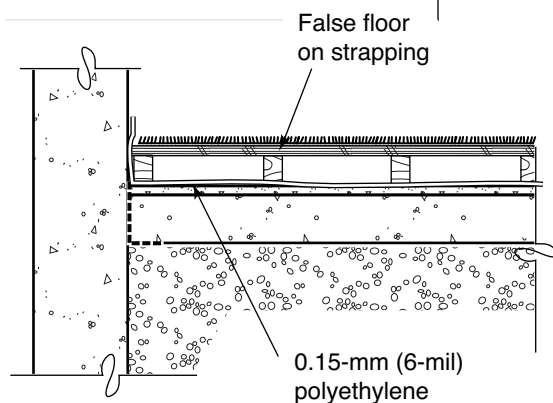

FIGURE 41
- ◆ Install carpeting or a false floor to minimize contact with the cooler surface temperature of the slab (see Figure 41).